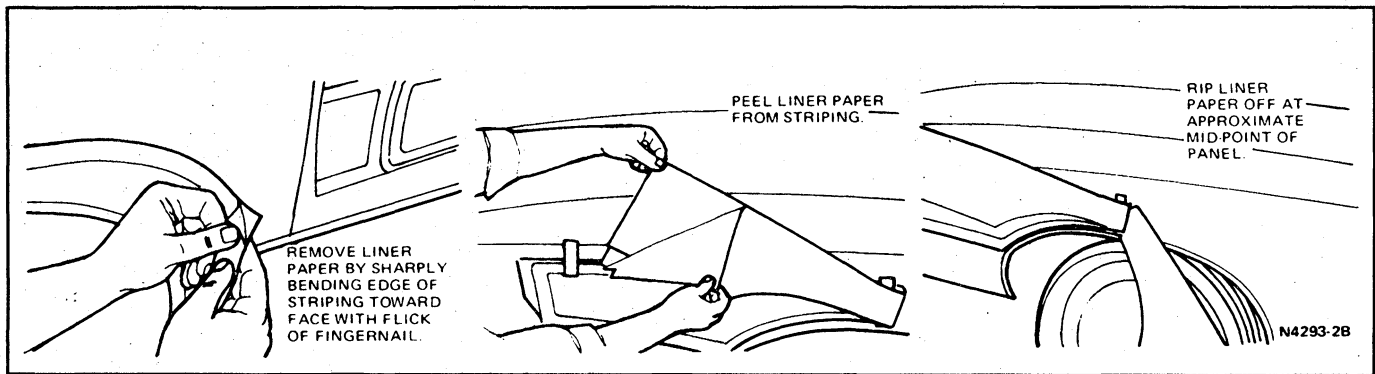

FIG. 2 Removing Liner Paper from Tape Stripe
3. Remove liner paper from stripe at the approximate mid-point panel, and tear off liner paper (Fig. 2).